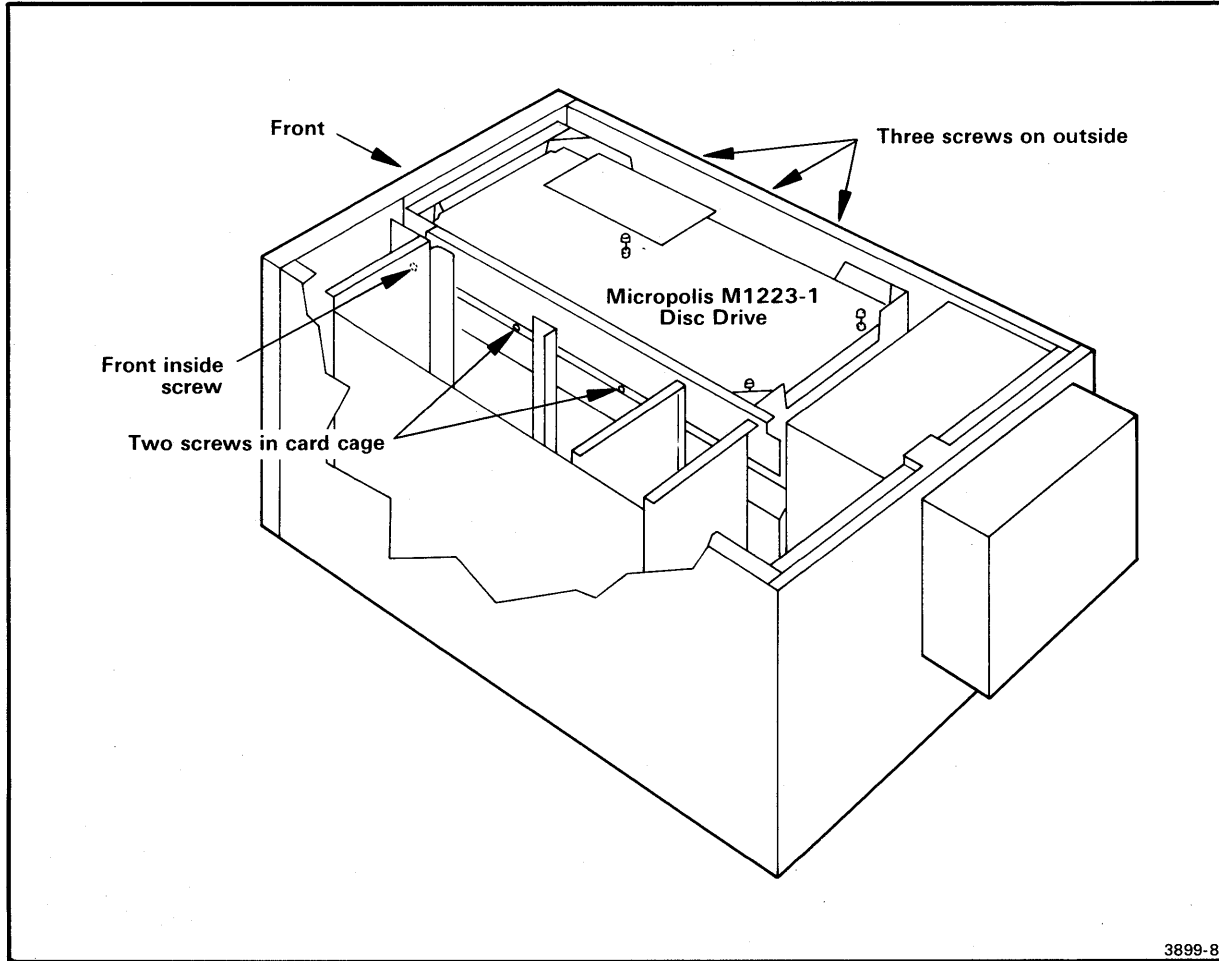

Fig. 15-7. M1220 Disc drive screw locations.
4. Remove three screws on the cabinet outside and the front screw in the card cage. Figure 15-7 locates the screws on the drive.